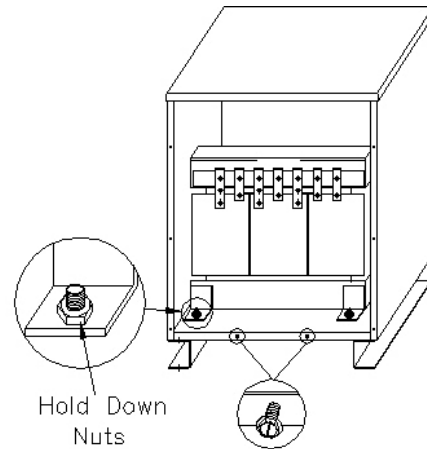

Figure 1 - Front view of Ventilated unit
**Ventilated** – Core and coil hold down nuts (see figure 1) should be loosened to reduce possible sound transmission to the case. The hold-down nuts are designed to be loosened, not removed. Removal will destroy the bolt threads.
Note: On ventilated transformers the bottom screws should be loosened and not removed for easier replacement of the cover. See Figure 1